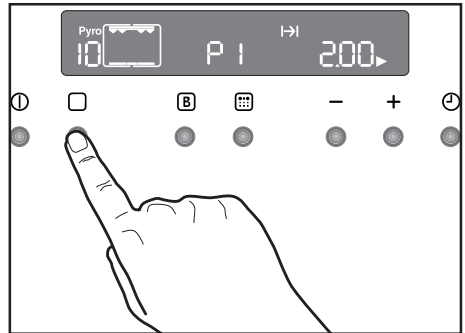

Fig. 19
1. Press button  to switch on the oven. Press the button  as often as necessary, until the "Pyro" function symbol  (level 1 - P 1) will appear in the display (Fig. 19).